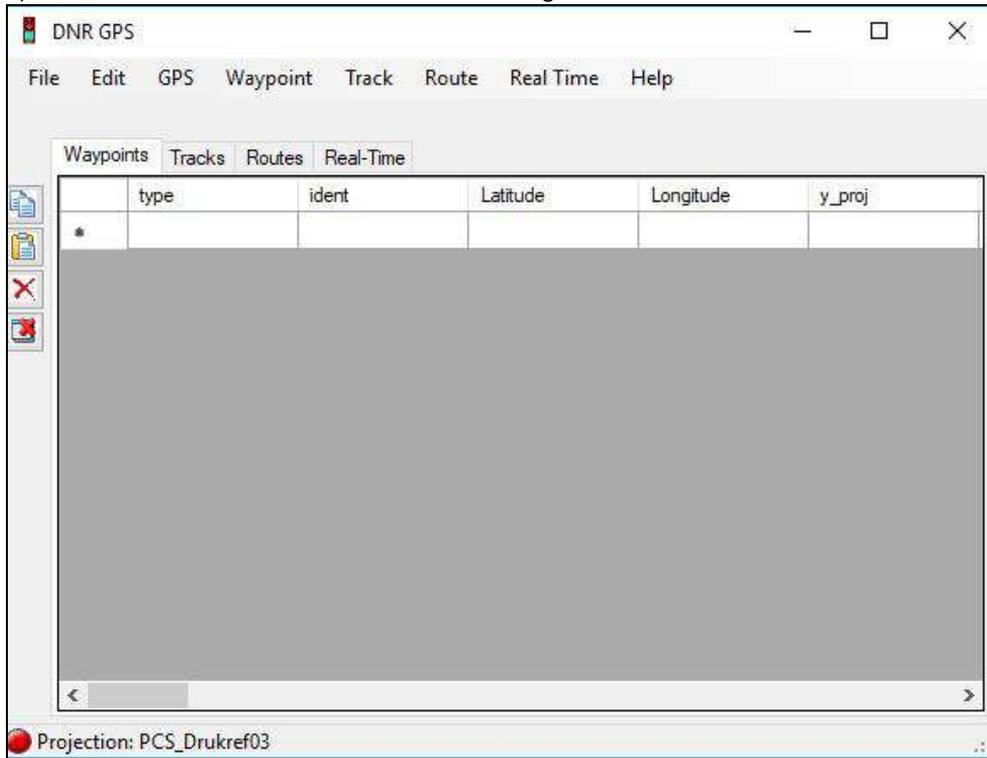

Figure 3b
b) Run the exe. file and screen occurs as shown in figure 3b below.